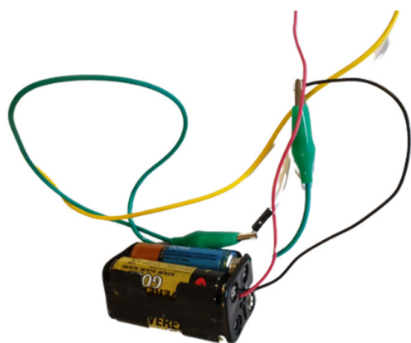

Figure 8: Step 3 is to connect to the battery pack.
3. Connect the other end to the battery pack as shown in Figure 8.